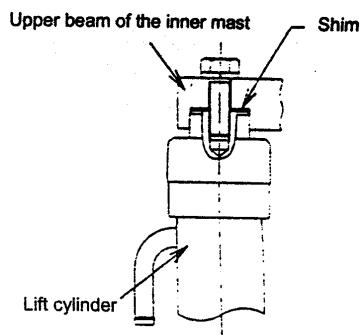

Fig7.3 Adjustment of lift cylinder
7.2.1 Adjustment of lift cylinder (Fig7.3)